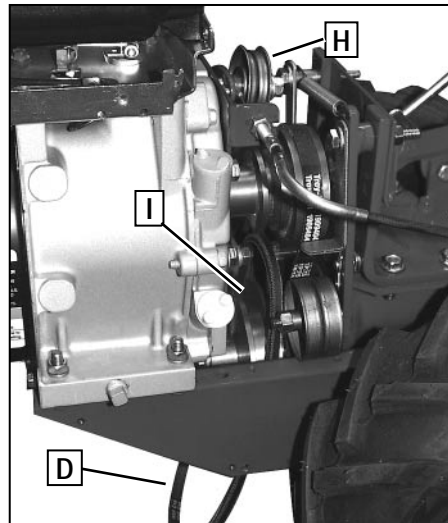
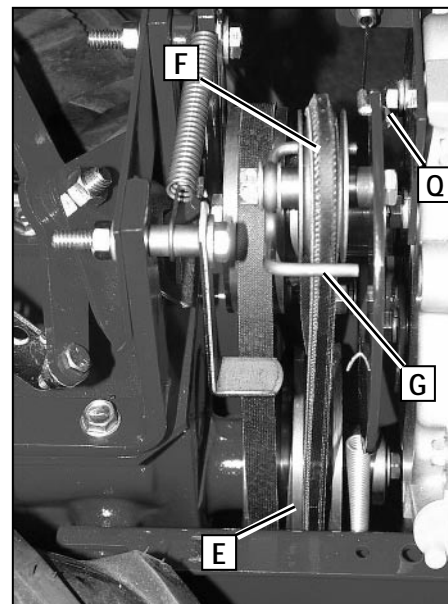

Figure 5-22: Remove reverse belt.
Figure 5-23: Install reverse belt and wire belt guide.
6. Disconnect the reverse cable wire from the Z-fitting to (Q, Figure 5-23).
7. Remove the reverse belt (D, Figure 5-22) from the reverse pulley (H) and the transmission (lower) pulley (I) by pulling it out through the front of the transmission housing.
**IMPORTANT:** The reverse belt has a ‘V’ shape. When installing the belt, make sure that the widest (flat) side of the belt will ride against the reverse pulley (F, Figure 5-23) and transmission pulley (E). If needed, the belt can be twisted “inside out” so that the “V” shaped side is on the outside and the widest side is on the inside.
2. Insert the belt up through the front of the transmission housing (see Figure 5-22) and loop the bottom half of the belt around the front groove (groove closest to engine) of the transmission pulley (E, Figure 5-23). Move the reverse idler spring (which was detached previously) out of the way and then loop the top half of the belt around the reverse pulley (F).
3. Reconnect the reverse cable wire to the Z-fitting (Q, Figure 5-23).
4. Reinstall the wire belt guide (G, Figure 5-23) using the flat washer and locknut removed previously. Position the wire belt guide as shown in Figures 5-23 and 5-12) before tightening the nut securely.